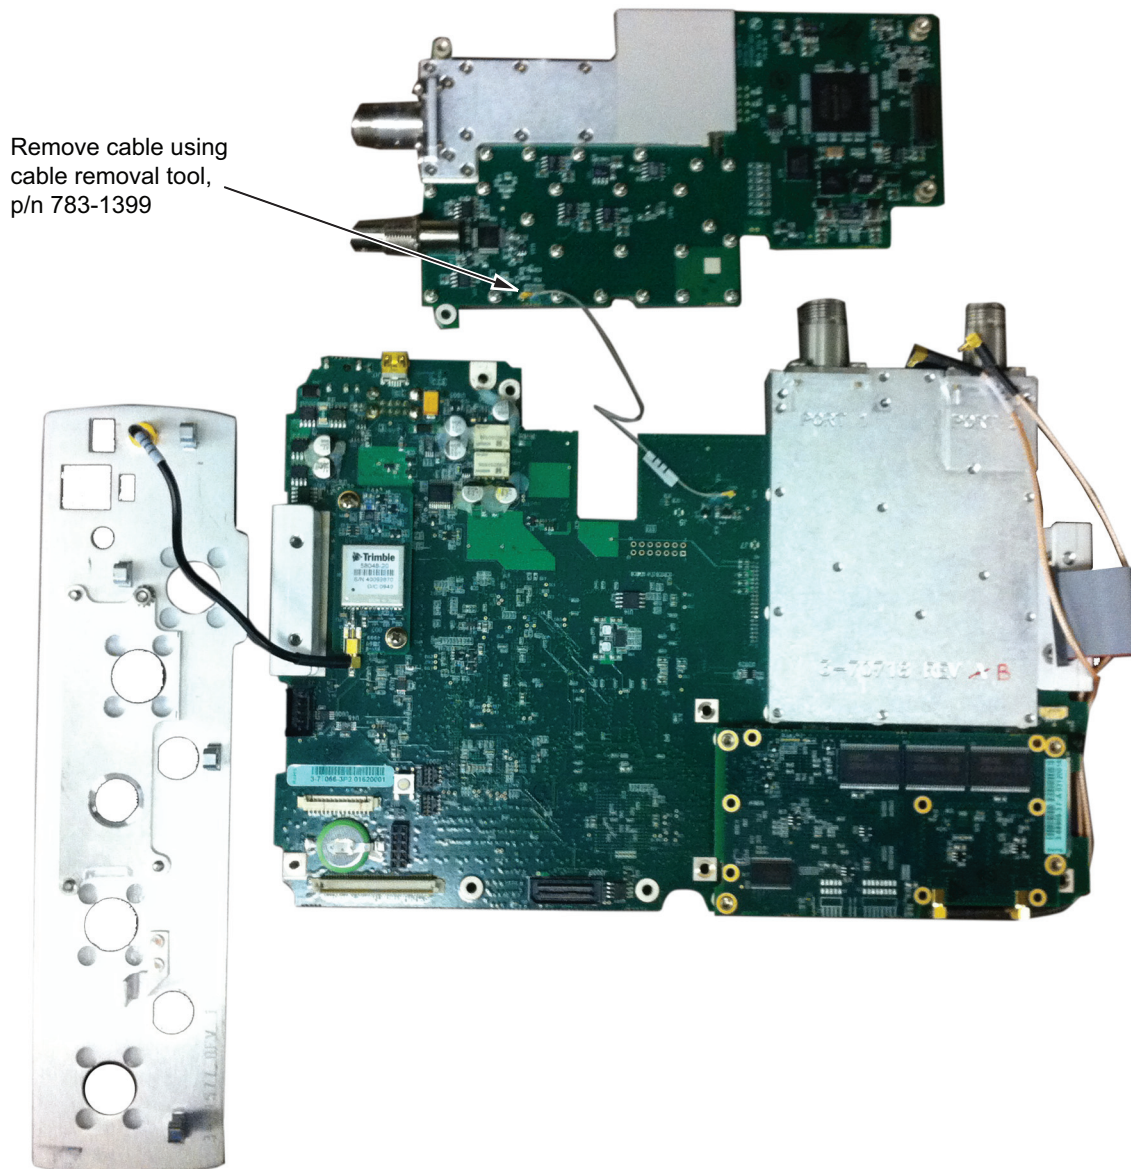

Figure 7-11. Remove Cable Using Cable Removal Tool
- Remove the cable shown in Figure 7-11 using the cable removal tool, part number 783-1399. When inserting the cable onto the new Signal Generator make sure the cable connector is parallel to the PCB so the connector is plugged on correctly. The cable should not be removed or inserted at an angle.